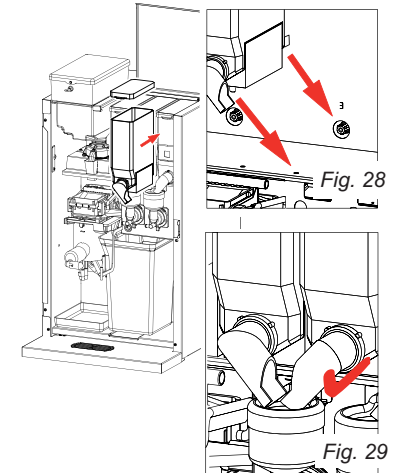

Fig. 29
4. Turn the dispensing outlet(s) back to their correct position (fig. 29).